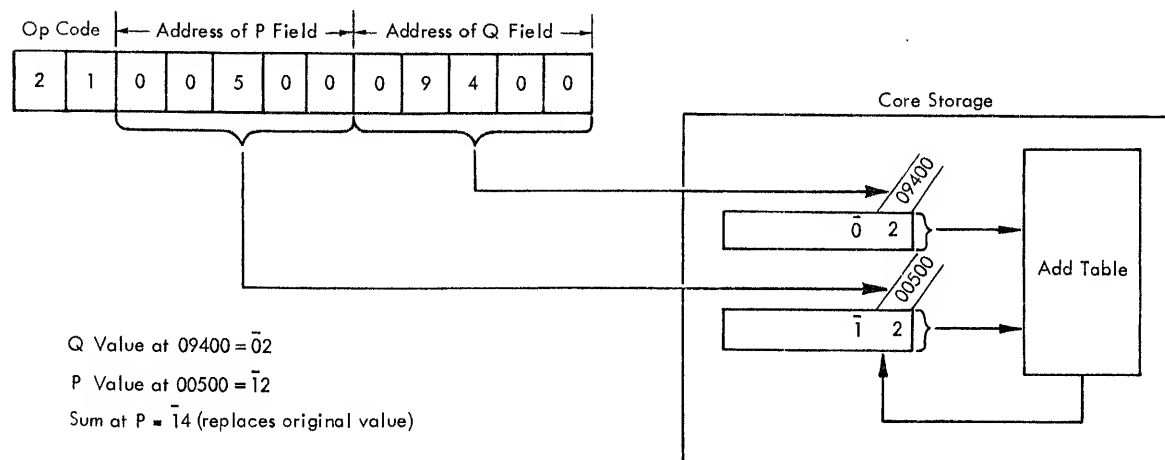

Figure 12. Add Instructions - Data Flow
In Figure 12, the sum (14) is "looked up" in the Add table and replaces the 12 at 00500 (P address). The field mark remains at the high-order position. When the sum is zero, the sign of the P field is re-
*Description.* The description is the same as that for Add (A-21) except that the data in the Q part of the instruction is used as the Q data. For example, if the Op code were 11 in Figure 12, the Q data would be 09400 and the result would be 12 ( $00 + \bar{1}2$ ). The three high-order positions of the Q data (094) are not used because the P-data flag bit (above the one in 12) stops the add operation. The Arithmetic Check indicator is turned on because the Q data field (09400) exceed the two digits of data ( $\bar{1}2$ ) contained in the field defined by the P address (00500).